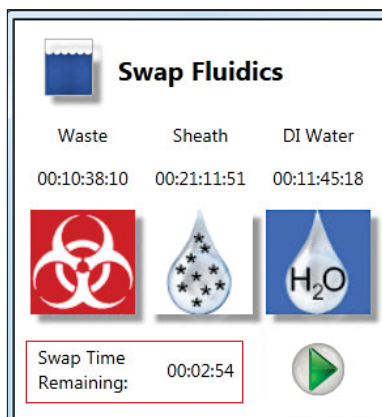

Fig. 2. Countdown timer highlighted in the Swap Fluidics window.
1. Select **Setup and Maintenance > Swap Fluidics** in the ProSort™ Software window. A countdown timer will automatically start (Figure 2). This is the amount of time left to swap the container before the system automatically shuts down.